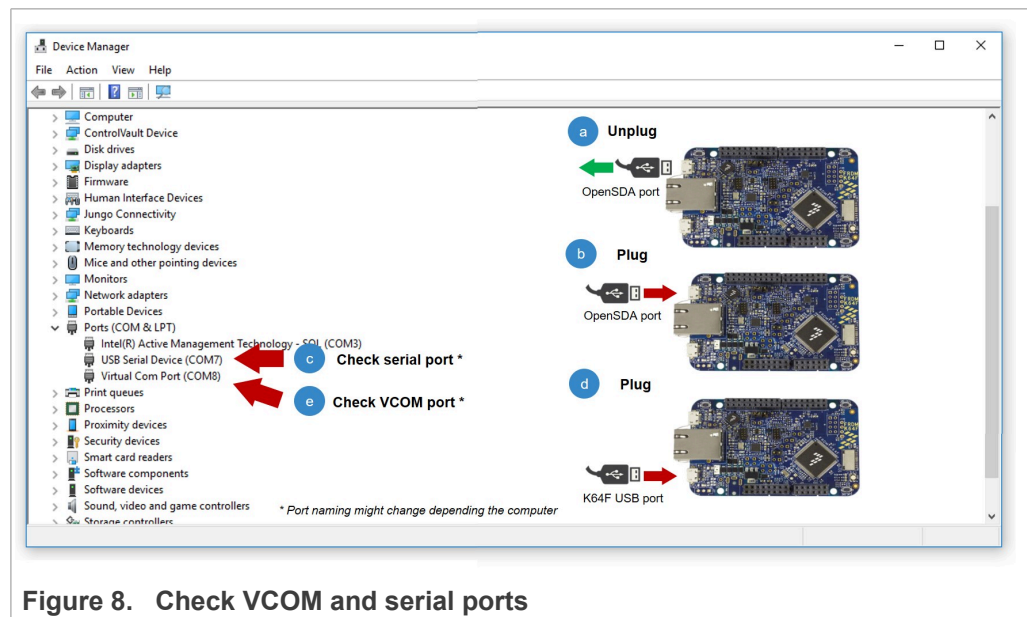

Figure 8. Check VCOM and serial ports
5. The serial and VCOM ports should be recognized by your Device Manager. To check that the ports are recognized, follow the steps indicated in Figure 8:
- Connect the FRDM-K64F board to your laptop as shown in Figure 14. Check that your Windows Device Manager recognizes FRDM-K64F board as shown in Figure 8. Refer to Figure 1 for OM-SE05xARD jumper configuration.